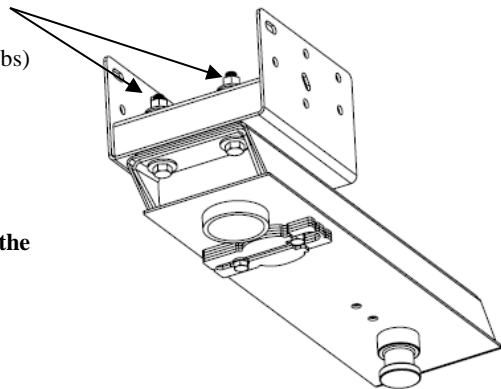

Figure 17
The Sidewinder™ Pin-Box is very versatile and can be used as a standard pin box – Conventional Transport. For conventional transport (2) 3/4" GR 5 Bolts and Hardware are installed in the back of the unit (figure 17), on OE applications these come installed from the factory and may or may not have been removed by the dealer. The two bolts prevent rotation and allow use of the pin-box without the wedge installed.